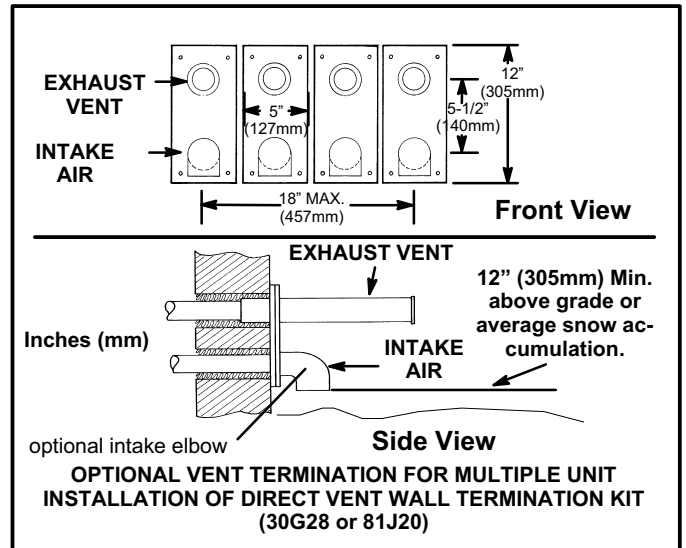

FIGURE 27
- 8 - Based on the recommendation of the manufacturer, a multiple furnace installation may use a group of up to four terminations assembled together horizontally, as shown in figure 27.